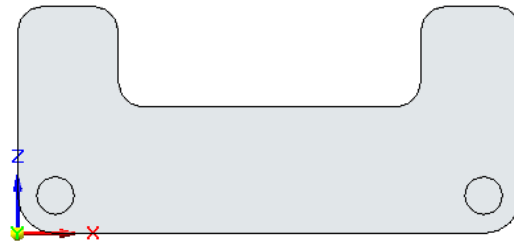

Figure 2-46 Final profile for Tutorial 1
7. Move the cursor over the center point of the lower right fillet and click when the concentric relationship handle is displayed. The final profile for Tutorial 1 is shown in Figure 2-46.